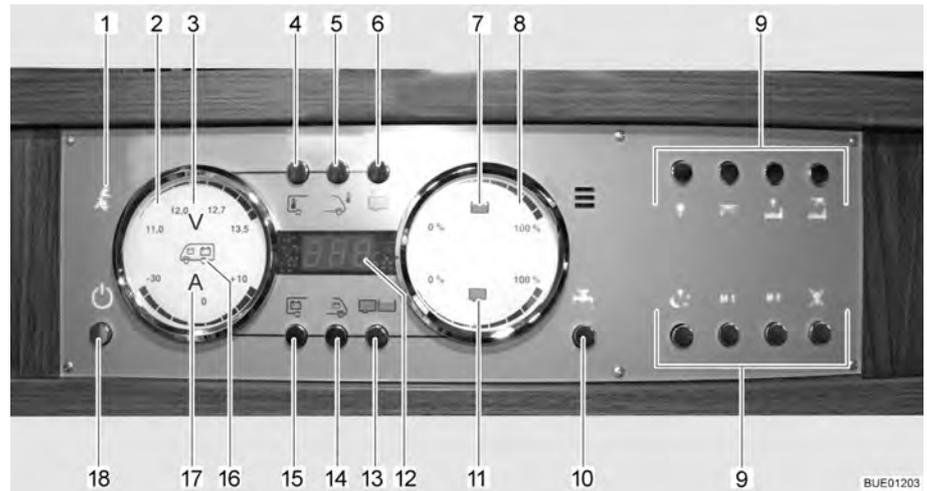

Fig. 107 Panel LT 510
The 230 V indicator lamp (Fig. 107,1) illuminates whenever line voltage is available at the transformer/rectifier input.
The 12 V main switch (Fig. 107,18) switches the panel and the 12 V power supply of the living area on and off.
- Briefly press the 12 V power supply button (Fig. 107,18). The 12 V living area power supply is switched on. The "12 V" indicator lights up.
- ▷ If, after switching on, the "11.0" LED of the volt indicator and the "V" volt symbol (Fig. 107,3) in the batteries gauge (Fig. 107,2) flash, the voltage of the living area battery is too low. Charge battery.
- ▷ If, after switching on, the "12 V" indicator and the "V" volt symbol (Fig. 107,3) flash three times, battery separation is activated. Deactivate battery separation.
- Briefly press the 12 V power supply button (Fig. 107,18). The 12 V living area power supply is switched off. The "12 V power supply" indicator goes out.
- Press button for living area battery (Fig. 107,15) and hold it down for approx. 10 seconds. The "V" volt symbol (Fig. 107,3) and the "12 V" indicator flash three times. The living area battery is disconnected from the 12 V power supply.
- Press the 12 V power supply button (Fig. 107,18) and hold it down for approx. 5 seconds. The "V" volt symbol (Fig. 107,3) and the "12 V" indicator flash three times. The living area battery is connected to the 12 V power supply. The indicator lights up after approx. 5 seconds.
- Press button for living area battery (Fig. 107,15). The "V" volt symbol (Fig. 107,3) lights up. Depending on whether the battery is being charged or discharged, the "A" ampere symbol (Fig. 107,17) lights up white or red respectively. The battery voltage and current of the living area battery are displayed using the LEDs in the gauge.
- Press button for starter battery (Fig. 107,14). The "V" volt symbol (Fig. 107,3) lights up. The battery voltage of the starter battery is displayed using the LEDs in the gauge.
- Press tanks button (Fig. 107,13). The water tank (Fig. 107,7) and waste water tank (Fig. 107,11) symbols light up. The fill levels of the water tank (upper scale) and of the waste water tank (lower scale) are indicated using the LEDs in the gauge.
**Tank alarm** The water tank symbol (Fig. 107,7) or waste water tank symbol (Fig. 107,11) flashes when the water tank is empty or the waste water tank is full.
The internal and external temperatures can be indicated using the digital display (Fig. 107,12).
- Press the button for the internal temperature (Fig. 107,4). The internal temperature is displayed.
- Press external temperature button (Fig. 107,5). The external temperature is displayed.